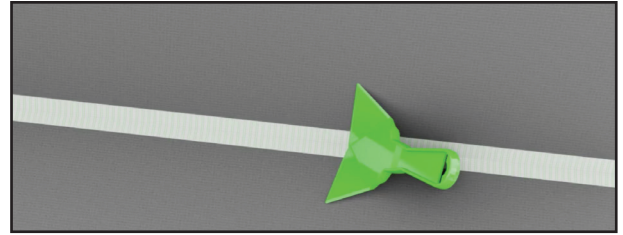

Fig. 12
4. Apply an additional continuous  $\frac{1}{2}$ " bead of Joint Sealant on top of the Mesh Tape and smooth out again with the putty knives to fully cover the Mesh Tape (Fig. 12). Excess Joint Sealant from this process may be used to cover Screws/Washers.